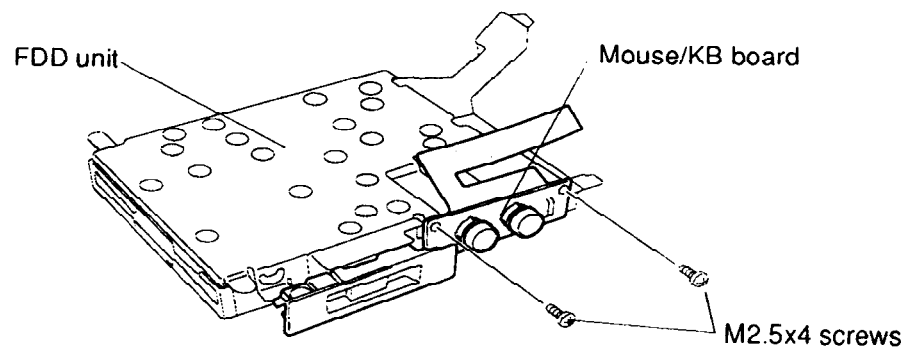

Figure 4-24 Separating the FDD and Mouse/KB Board
5. To separate the **mouse/KB board** and **FDD unit**, remove the **two M2.5x4 screws** (Figure 4-24).
2. Secure the **mouse/KB board** with **two M2.5x4 screws** to the FDD bracket (Figure 4-24).